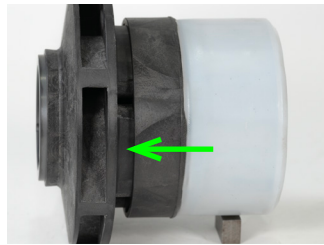

Fig 34
- This will disengage the snap-fit prongs and allow the impeller and drive to separate. This will require about 7/8" of separation between the impeller back shroud and the drive before they can be completely separated. See figures 34 through 36.